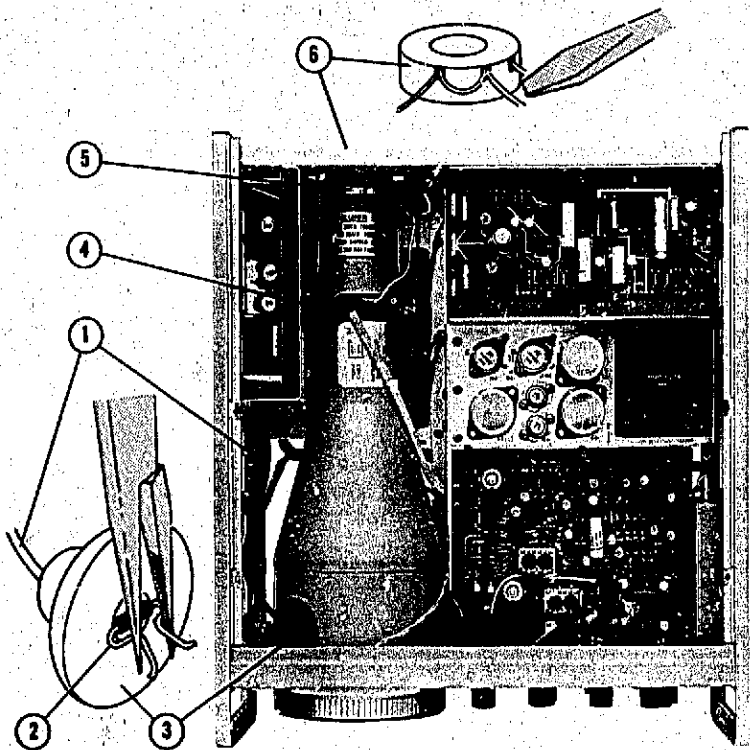

Figure 5-22. Cathode-Ray Tube Disassembly
5-166. REMOVAL. A face mask or goggles and gloves should be used when it is necessary to handle the CRT. Perform removal procedures with 851 in normal position. Remove 851 top cover to reach the CRT. Parts mentioned in the following procedure are identified in Figure 5-22 by numbered callouts.
- a. Disconnect post-accelerator lead (1).
(1) The post-accelerator lead connects to the tube by means of a spring-clip arrangement (2), and the connection is protected by a rubber cap (3).
(2) Lift edge of cap with screwdriver and, using a pair of long-nose pliers, compress spring contacts as indicated in Figure 5-22. This will free lead-and-spring assembly from recess.
b. Disconnect the six leads (4) at the neck of the CRT. The lead pins pull straight out; be careful not to bend the pins.
d. Loosen clamp (5) at socket of CRT.
e. The socket (6) is a tight fit; carefully pry socket loose with a screwdriver to remove it.